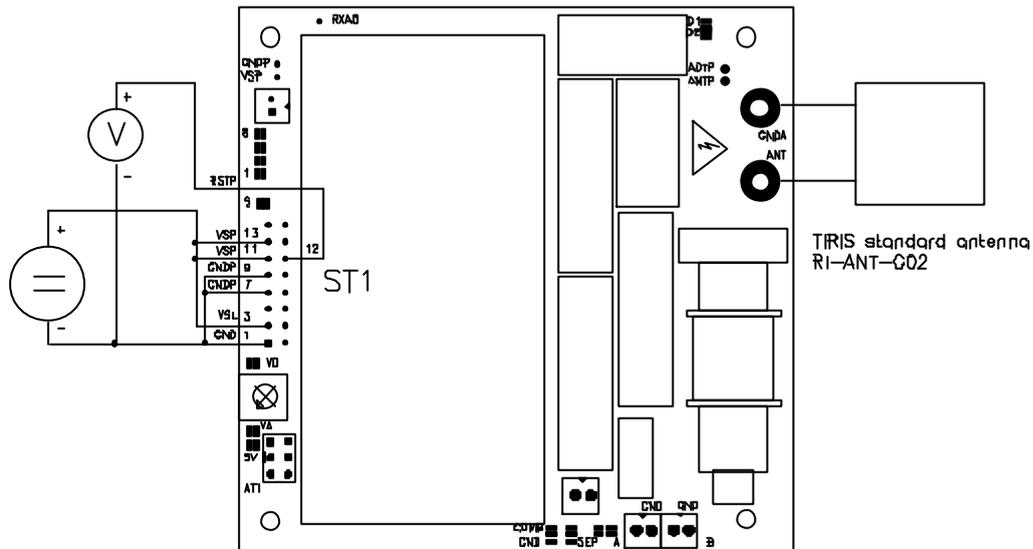

Figure 44: Noise Testing Configuration (Testing RSTP)
The measurement criteria for low noise is the amplitude of the receive signal strength detector of the RF module. The test pin RSTP at connector ST1 carries an analog output voltage indicating the receive signal strength. This voltage should be measured in combination with the antenna RI-ANT-G02. The set-up for this can be seen in figure 44. This configuration operates the RF module from a battery and has no
- * Try the configuration shown in figure 44. If this configuration shows bad noise conditions (RSTP voltage more than about 1.0 VDC), then the problem is radiated noise.
- * When the configuration of figure 44 shows good noise conditions (RSTP voltage less than 1.0 Vdc), then the problem is conducted noise.